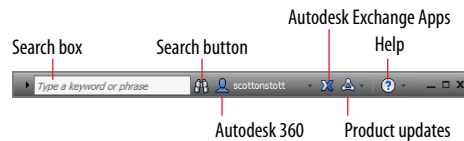

FIGURE 1.16 InfoCenter
12. Take a look at the InfoCenter at the top right of the screen (see Figure 1.16). Click in the search box and type **solid**.